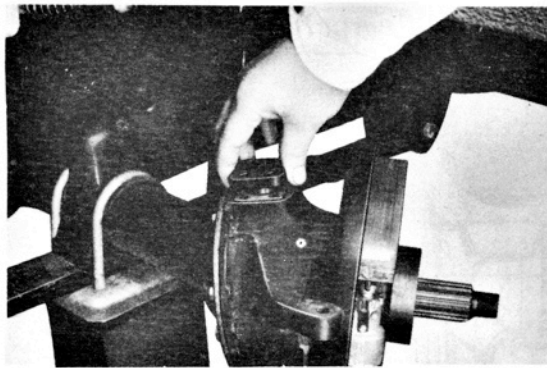

Fig. 5-3.
- 4) Take out the eight (8) 6mm joint seal bolts and remove the oil seal cover, felt gasket and oil seal carefully.
- 5) Take out the four (4) king pin bolts and remove the upper and lower king pins as shown in the Fig. 5-3. When removing the king pins, note the thickness and number of adjusting shims fitted behind the king pins.